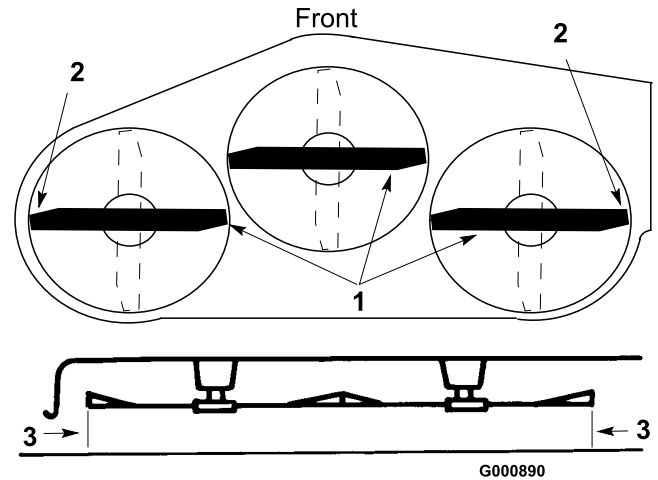

Figure 41
4. Carefully rotate the blade(s) from side to side (Figure 41). Measure between the outside cutting edges and the flat surface (Figure 41). If both measurements are not within 3/16 inch (4.75 mm), an adjustment is required; refer to steps 5 and 6.